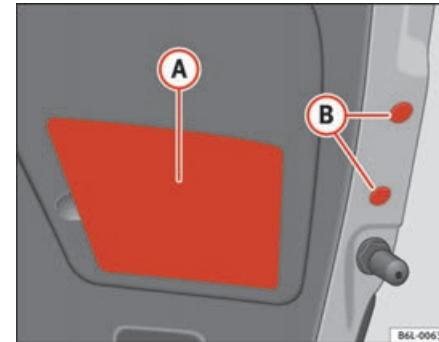

Fig. 162 Rear light on tailgate
- Remove the plastic cover **A** ⇒ page 224, fig. 162 and the plastic caps **B** ⇒ page 224, fig. 162 carefully levering with the flat part of a screwdriver and taking special care not to scratch the paintwork.